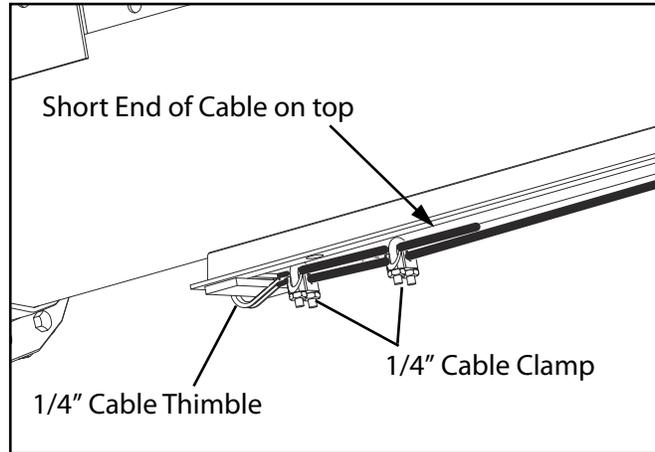

FIG. 3-19. Winch Cable to Tube
1. Attach the end of the winch cable, which goes over top the slide roller, to the flat welded to the lower end of the slide track. See Fig. 3-19. Slide a cable thimble over the flat. Loop the cable around the thimble with the short end on top. Install the cable clamps. Make sure the u-bolt of the clamp is on the short side of the cable. Leave approximately 3" between the clamps. Torque the nuts on the clamps to 15 ft.lbs.